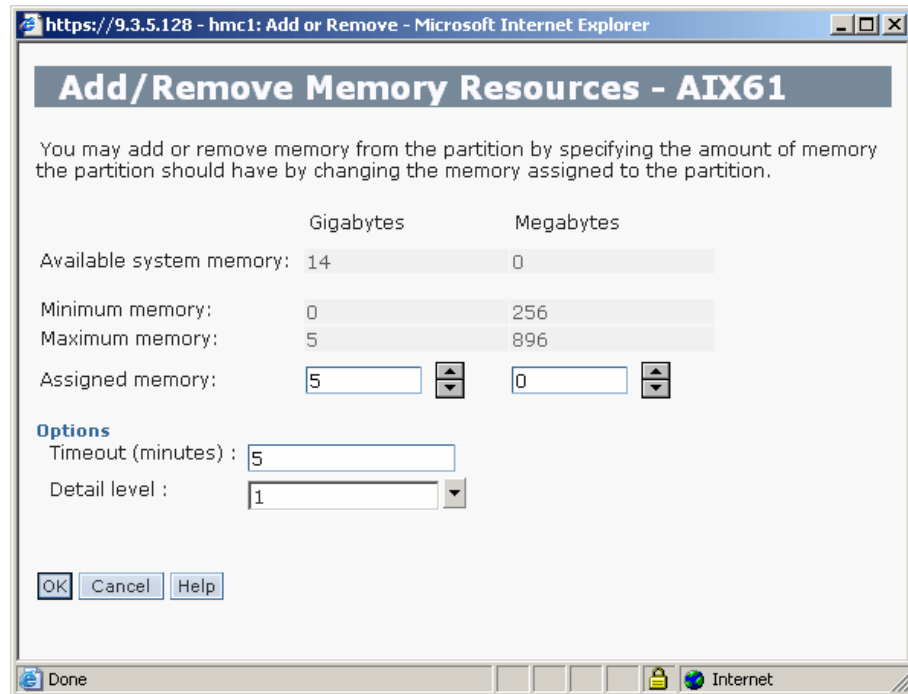

Figure 12-4 Changing the total amount of memory of the partition to 5 GB
2. Change the total amount of memory to be assigned to the partition. On HMC Version 7, you do not provide the amount of extra memory that you want to add to the partition, but the total amount of memory that you want to assign to the partition. In Figure 12-4 the total amount of memory that is allocated to the partition was changed to 5 GB.
The graphical user interface to change the memory that is allocated to a partition is the same one used to add memory in Figure 12-4 on page 462. On HMC Version 7, you do not select the amount to remove from the partition as you did in the previous versions of HMC. Instead, you change the total amount of memory to be assigned to the partition. In the command output that is shown, the partition has 5 GB and you want to remove, for example,